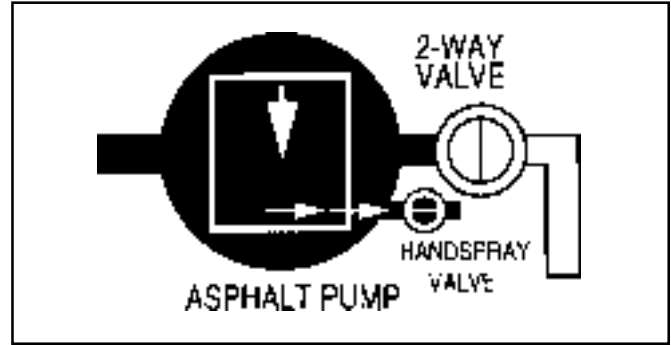

FIGURE 14 - Handspray Valve
4. Open the Handspray valve (Figure 14).